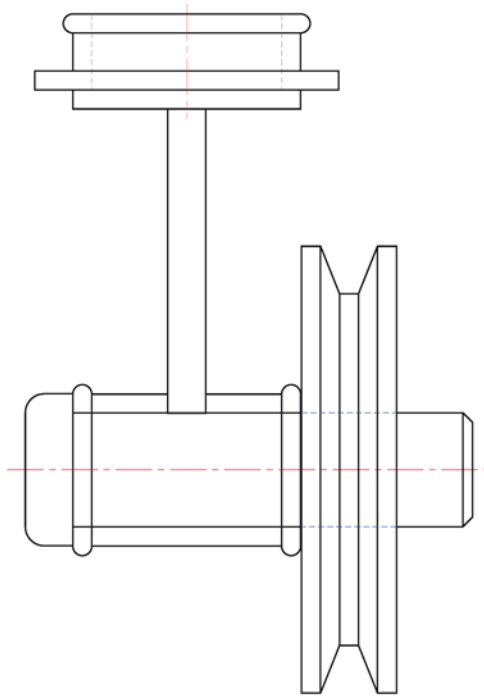

Fig. 14.19 Example – Xrefs
EXAMPLE – EXTERNAL REFERENCES (FIG. 14.19)
8. Now reopen the original drawing. The **external reference** within the drawing has changed in accordance with the alterations to the spindle drawing. Fig. 14.19 shows the changes in the front view of the original drawing.